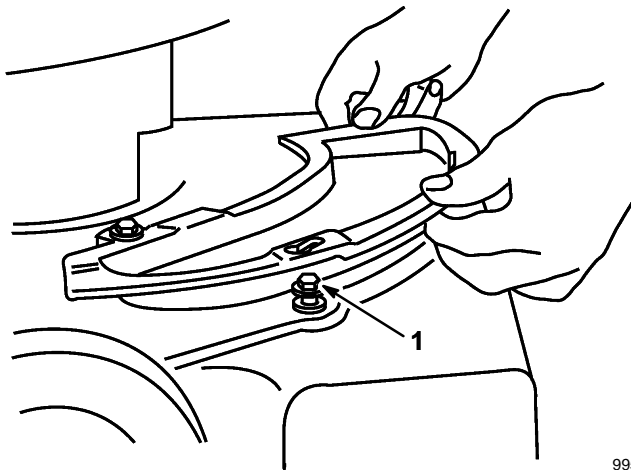

Figure 5
- Two shoulder bolts on the housing protrude through slotted holes in the cover plate and do not have to be loosened or removed. Cover plate moves over the shoulder bolt heads (Fig. 5).